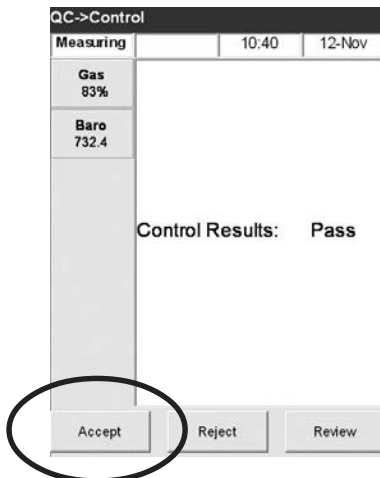

Fig. 4-27 Accept QC Results
- Press <Accept> if results are acceptable (Fig. 4-27), and the results will be stored in the Control Database.